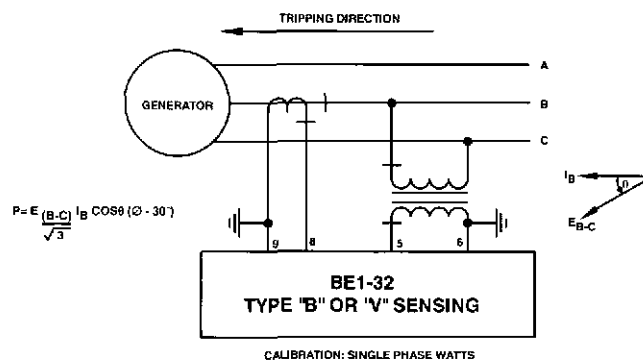

Figure 8 - Single Phase, Type B or V Sensing
**Type B (60 Hz) or Type V (50 Hz) Sensing:** Single-Phase (Figure 8) with 30° phase shift. This sensing configuration monitors a line-to-line voltage and a single phase current of a three-phase, three-wire circuit and calculates the power flowing in the tripping direction. Since the input voltage leads the input current by 30° (assuming unity power factor) a 30° lagging phase shift network is designed into the voltage input circuit. Relays with this sensing type are calibrated in single-phase watts. Note: Type B or V configurations are phase rotation sensitive.